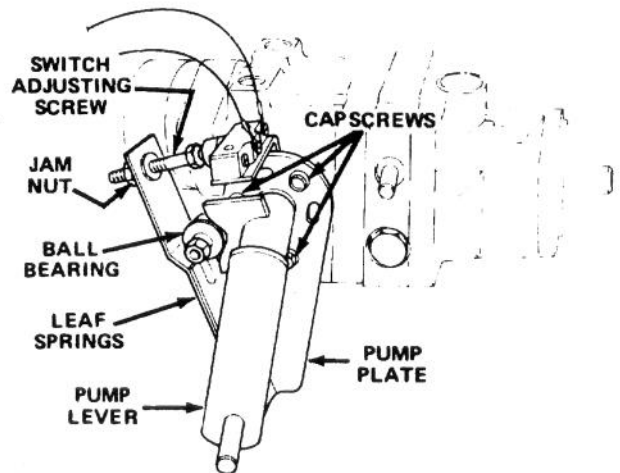

Figure 55
1. Park vehicle on a level surface and turn engine off. Apply the parking brake, tip seat forward, and actuate pump lever (Fig. 55) to insure assembly is properly seated and operating freely. Correct any discrepancy.
6. Because the wheel is rotating, the pump plate must be adjusted. But before adjusting the pump plate, move throttle to SLOW. If wheel is rotating forward, loosen capscrews, and lightly tap bottom of pump plate counterclockwise (Fig. 55). By contrast, tap pump plate clockwise if wheel is rotating backward (Fig. 55). When wheel stops rotating, tighten capscrews holding pump plate against side of transmission. Verify the adjustment with throttle in SLOW and FAST position.
- A. Ball bearing is loose or worn out (Fig. 55).
- F. Weak or damaged leaf springs (Fig. 55). Replace.
2. Actuate the pump lever (Fig. 55) to insure all parts are operating freely and seated properly.
3. Loosen jam nut. Rotate switch adjusting screw (Fig. 55) until there is a gap between head of screw and switch button.